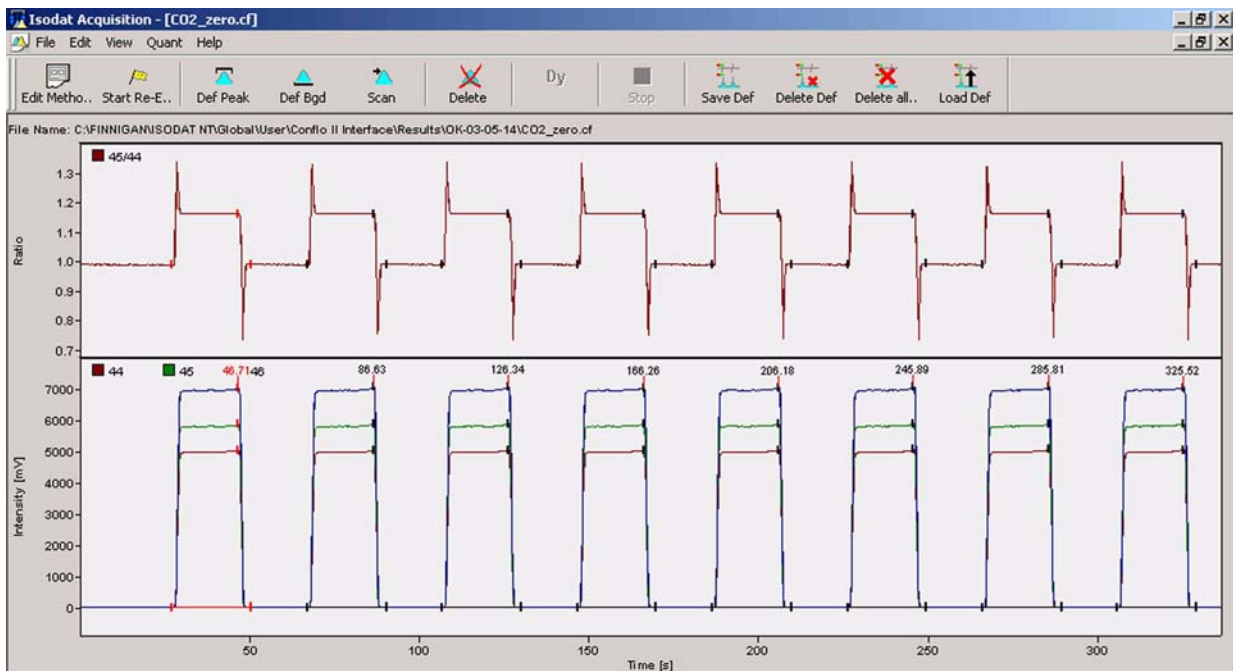

Figure 5-8. Zero Enrichment of Carbon - Chromatogram
- Recognize the eight on-off pulses shown above in the expected chromatogram (Figure 5-8).